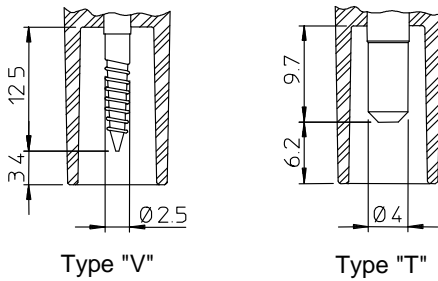

Fig. 8
- V: screw fixing system (Fig. 8);
- T: fixing system with terminal  $\varnothing$  4 (Fig. 8);
The connection of high voltage cables can be of two types, according to the terminals used inside the isolators: connections can be carried out by means of a screw or a cylindrical terminal with 4 mm diameter, as shown in Fig. 8. All connectors, including the ones complete with cable, can be supplied on request.